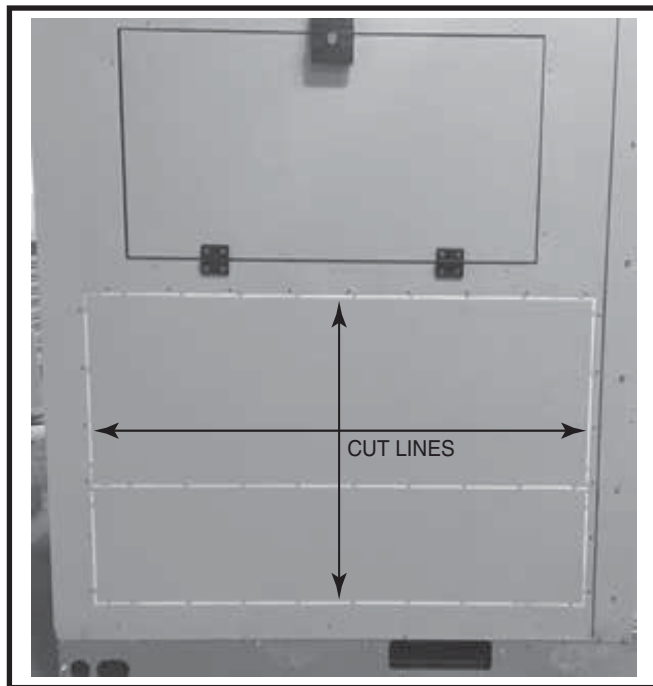

Figure 2. Area to be Cut Out
3. Cut out back panel to accommodate economizer installation. **NOTE:** Panel removal can be accomplished by using a dull blade. Care should be exercised to not cut into the sheet metal edges of the opening while cutting the foam insulation. See Figure 2.